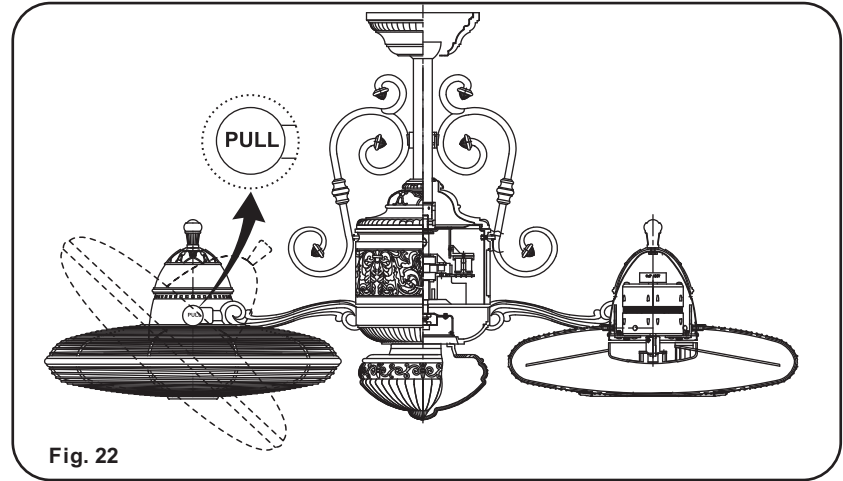

Fig. 22
Step 1. Pull the "PULL" knob out to unlock the fan, tilt the fan body to desired location, push back the "PULL" knob to lock the fan. (Fig. 22)